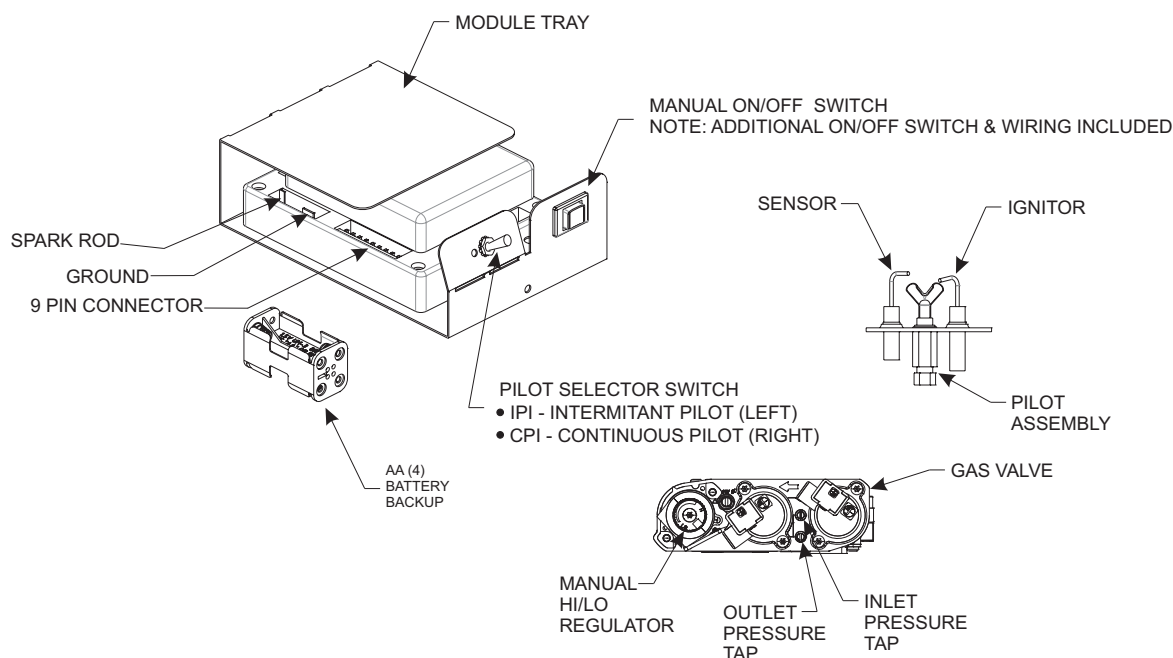

Figure 75
See Figure 75.
3. The gas valve has inlet and outlet pressure taps as shown in **Figure 75**. Refer to pages 8 and 17 for gas pressure requirements.
NOTICE: The gas control has a manual HI/LO flame adjustment knob (regulator) that allows you to increase or decrease the height of the burner flame. **See Figure 75.** Rotate the HI/LO knob counterclockwise to "HI" to increase the flame height, and clockwise to "LO" to decrease the flame height.
To connect the remote receiver to the appliance, first disconnect the ON/OFF switch wires from the white and green wire connectors and connect the wires from the remote receiver to the green and white wire connectors. **See Figure 75.**